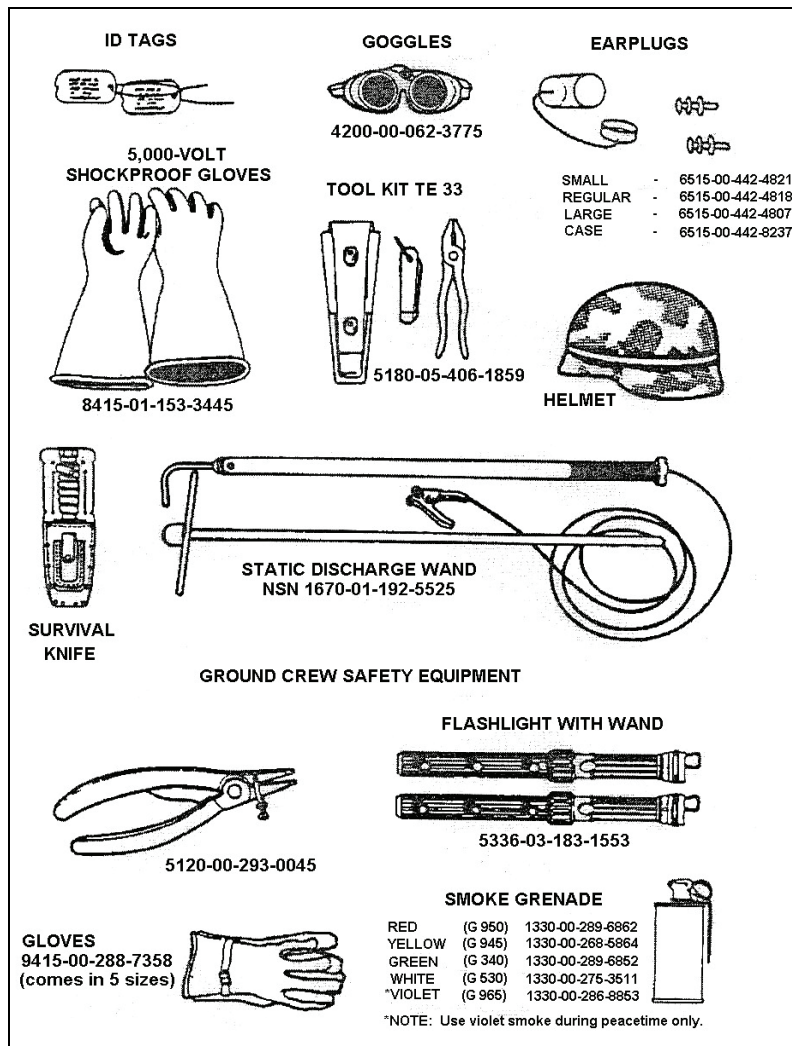

Figure 3-165. Safety Equipment
1. Ensure personnel are wearing safety equipment (helmet, protective mask or dust goggles, earplugs, and gloves) (see Figure 3-165).